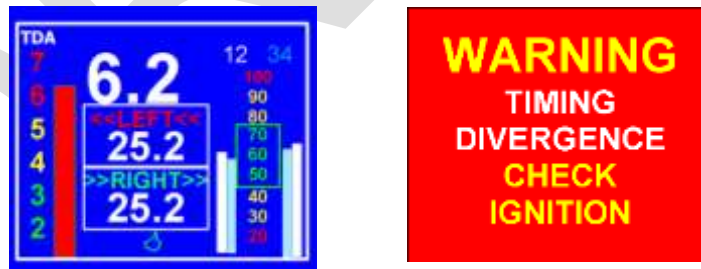

Figure 2: Timing Divergence Ignition (TDI) on left and Alarm (TDA) Warning Screen on right
Should the timing difference between two ignitions diverge greater than six (6) degrees, the EIC32 will change the timing divergence bar graph to red, display the Timing Divergence Alarm screen on the right in Figure 2, flash its red LED, and produce an audio alarm.